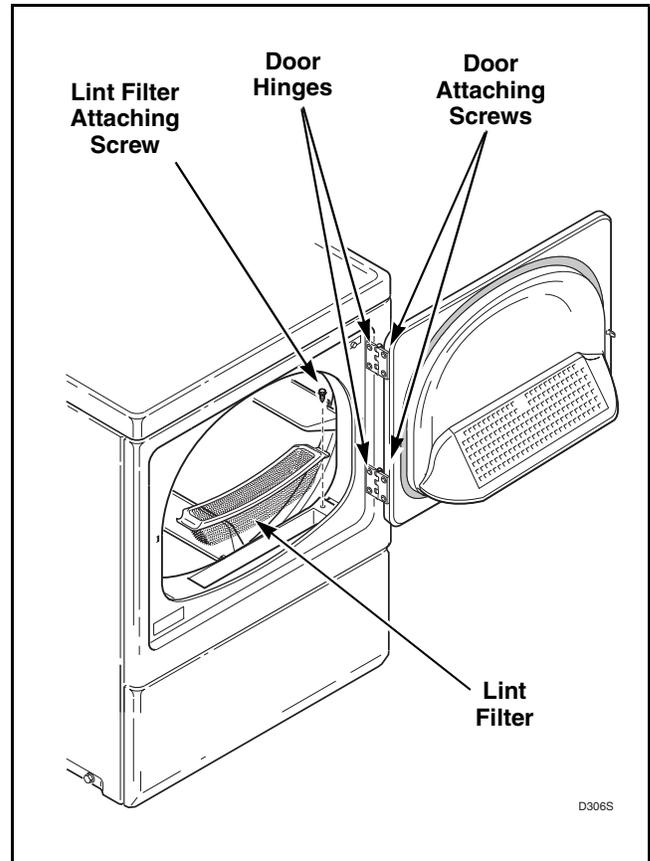

Figure 19
- a. Open loading door and, while supporting door, remove four screws holding door assembly to hinges. Refer to *Figure 19*.
- b. Remove four screws holding hinges to front panel. Refer to *Figure 19*.